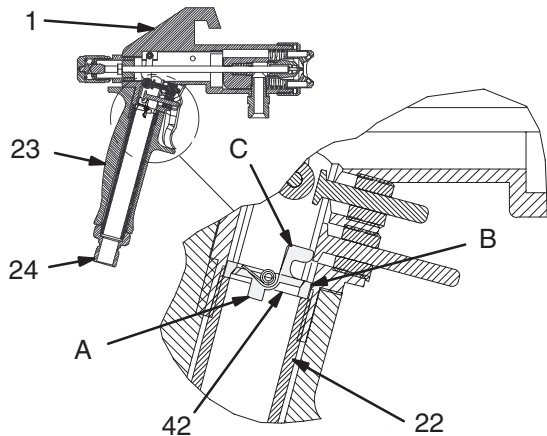

Fig. 24
1. Loosen quick disconnect coupling (24) and remove handle (23). See Fig. 24 and parts list.